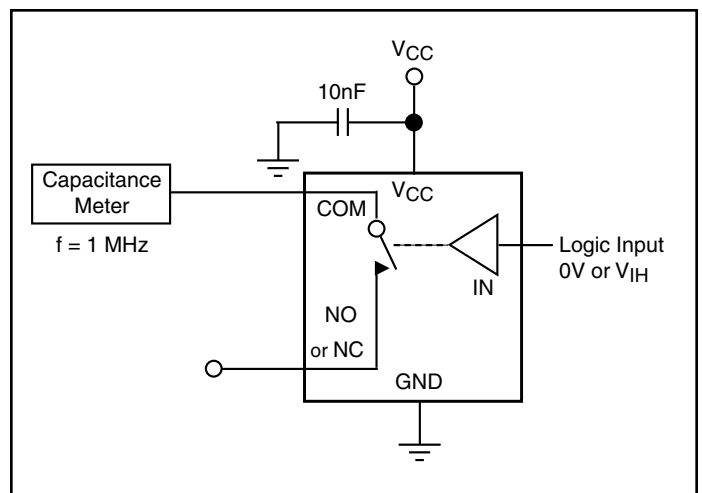

Figure 8. Channel On Capacitance
| NC On Capacitance | $C_{NC (ON)}$ | $f = 1MHz$, See Test Circuit Fig. 8 | | 95 | | pF |
| NO On Capacitance | $C_{NO (ON)}$ | $f = 1MHz$, See Test Circuit Fig. 8 | | 95 | | |